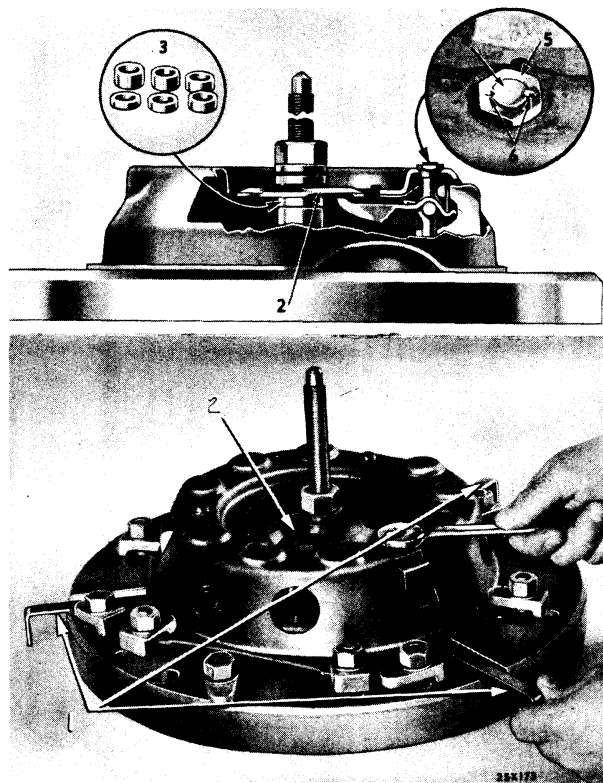

Fig. 7—Adjusting Clutch Release Levers
#### 4. ADJUSTING THE RELEASE LEVERS (Fig. 7)
- (4) Install the self-aligning washer, flatwasher and compression nut.
- (5) Tighten the compression nut until the clutch is fully compressed.
- (6) Adjust the clutch release levers until the feeler gauges have the same slight drag or feel while being pushed in or pulled out. **Tighten** the nuts to **decrease** drag and **loosen** to **increase** drag, as shown in Figure 7.
- (7) Recheck the release lever adjustment to make sure each one is adjusted properly. Stake the nuts to hold them in position.
- (8) Remove clutch from fixture and install in car, as described in Paragraph 2, of this Section.